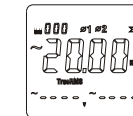

Figure 9-8
- Measurement operation of the 1st and 2nd phase locations is the same as that of three-phase four-wire system. As shown in Figure 9-8, total three-phase inactive power can be displayed by pressing SELECT key after tripping the 3rd phase location of measurement.